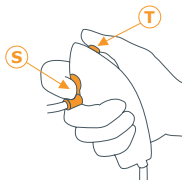

Figure 3:
- 8 Make a choice whether to start Ventrain® ventilation with inspiration or expiration. Expiration is started by securely closing the index finger hole **S**. Inspiration is started by closing both the index finger hole **S** and thumb hole **T**. Both modes are shown in Figure 3 and 4.
- 9 Alternately open (assisted expiration) and close (inspiration) the thumb hole **T** to apply ventilation, while keeping the index finger hole **S** closed, as shown in Figure 3 and 4. Use an initial inspiration time and an expiration time of 1-2 seconds (depending on aimed tidal volume, see Table 2) each in case of adults. For paediatric situations or collapsed lung ventilation use an inspiration time and an expiration time of 0.5 s each.